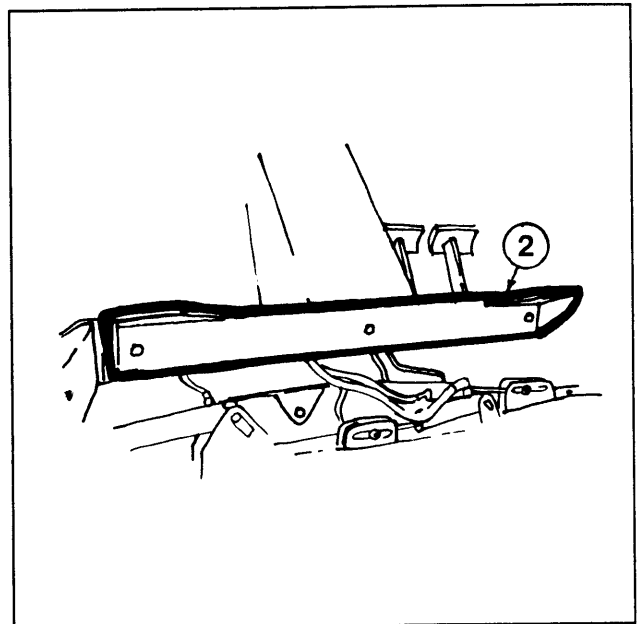

Figure 2
4. Locate the three-hole bolt pattern along the front of the operator platform. Take the front bracket (2) and loosely bolt it to the platform using the 12x35x1.75mm hex bolts and 1/2" lockwashers provided. (see figure 2)